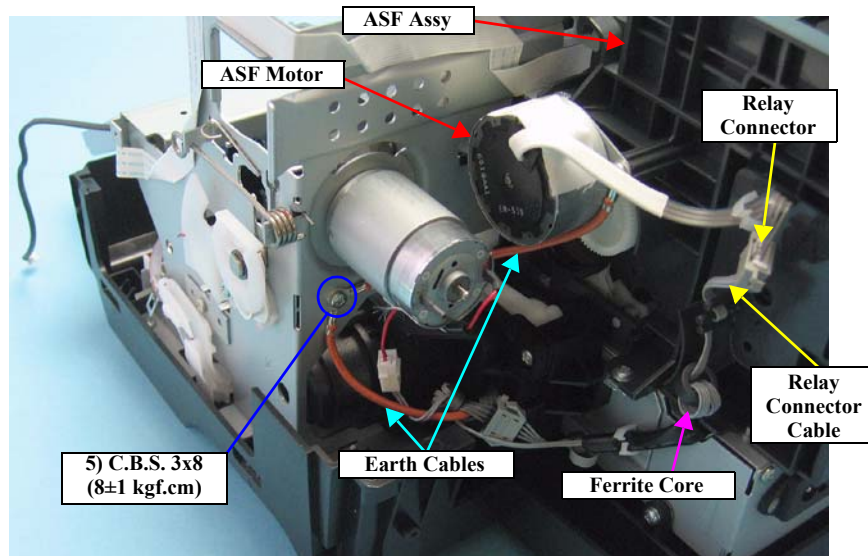

Figure 4-26. Releasing the Cables (1)
- Referring to Figure 4-26, correctly route the Relay Connector Cable.